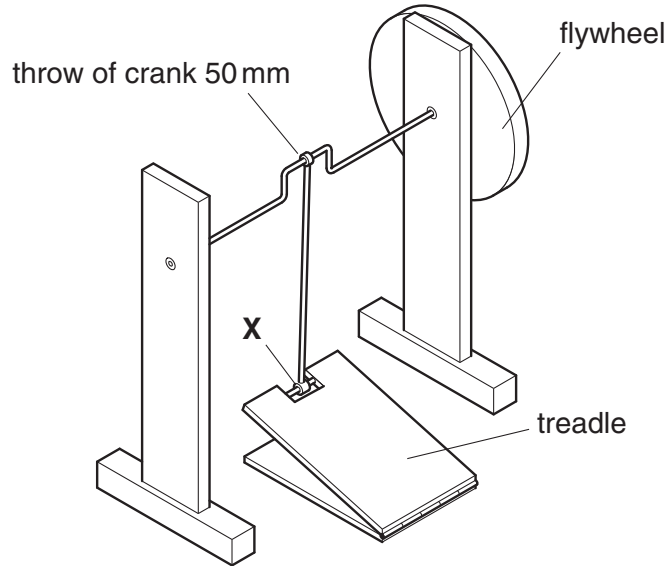

Fig. 8
- 4 (a) Fig. 8 shows part of a treadle mechanism. This is a traditional method of producing rotary motion. The system is foot operated and relies on momentum of the flywheel to complete each rotation.